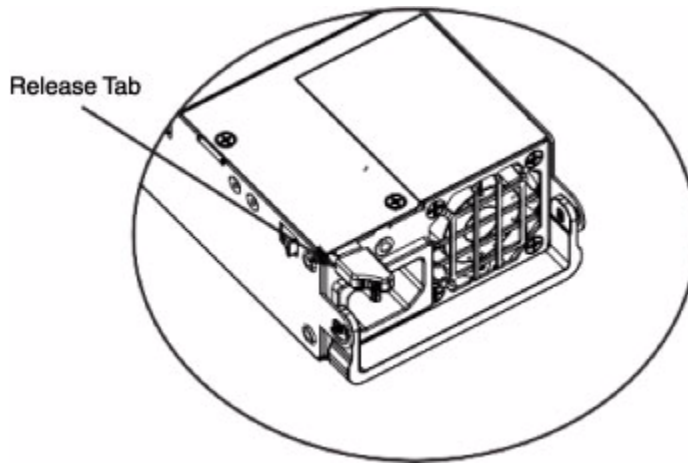

Figure 5-2 Power Supply Release Tab
1. Push the release tab (on the back of the power supply) as illustrated in Figure 5-2.